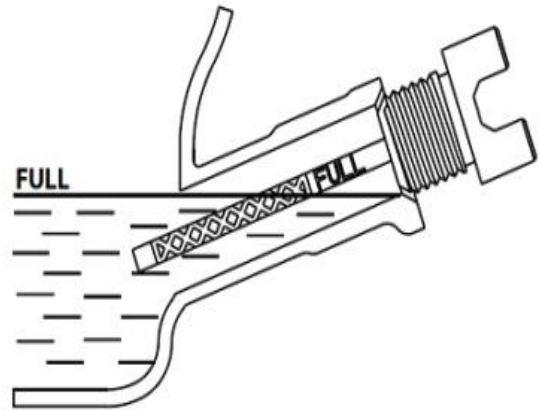

Figure-3 Safe Operating Range Level
- \* Remove dipstick and verify oil level is within safe operating range. **See Figure-3.**